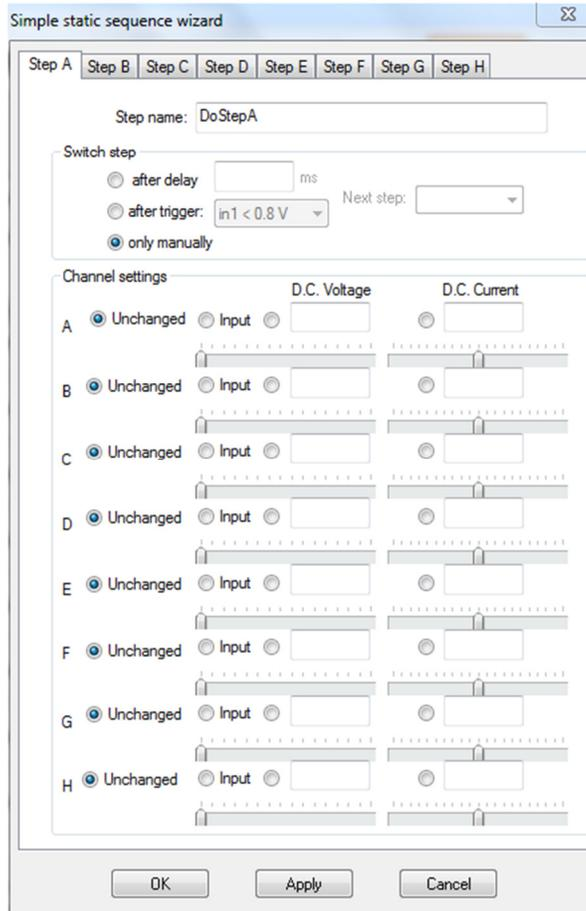

Figure 4. Simple Sequence Wizard Window
2. Select **Tools > Simple sequence wizard**. The Wizard interfaces contain tabs for each step (**Figure 4**). When you launch a wizard the settings for Step A will be displayed. Click on any step's tab to view that step's settings.